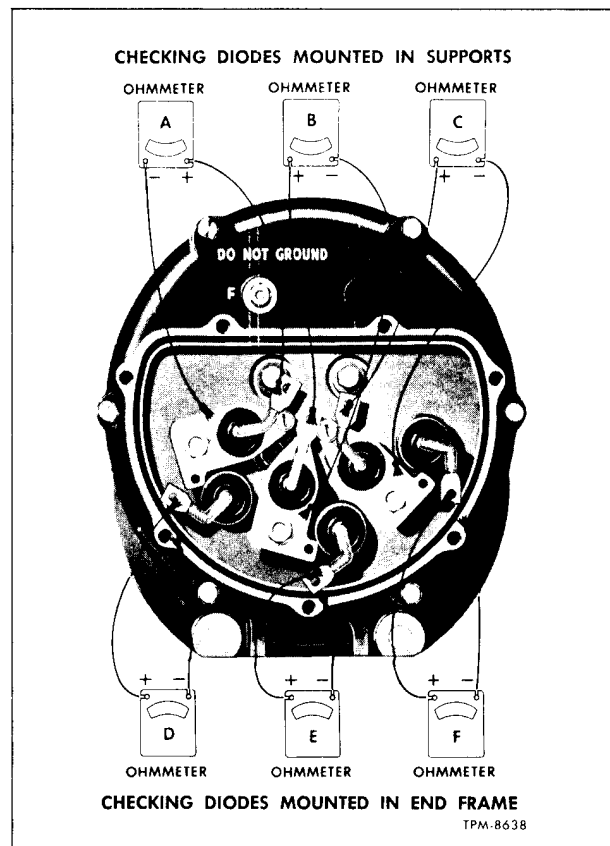

Figure 8—Checking Rectifiers For Shorts
3. Disconnect all rectifier flexible leads, three from output terminal stud and three from rectifier brackets (fig. 8).
To check rectifiers mounted in supports, connect the positive lead of ohmmeter to each rectifier lead and the negative lead to each support as shown in parts A, B, and C of figure 8. If reading of 300 ohms or less is obtained, replace rectifier.
To check rectifiers mounted in end frame, connect the positive lead of ohmmeter to each rectifier lead and negative lead to end frame as shown in parts D, E, and F of figure 8. If a reading of 300 ohms or less is obtained, replace rectifier.